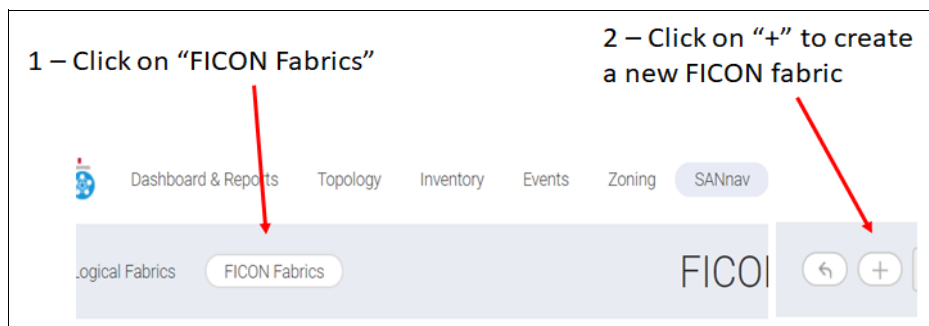

Figure 6-12 Selecting FICON fabrics
3. Create a FICON fabric (see Figure 6-12):